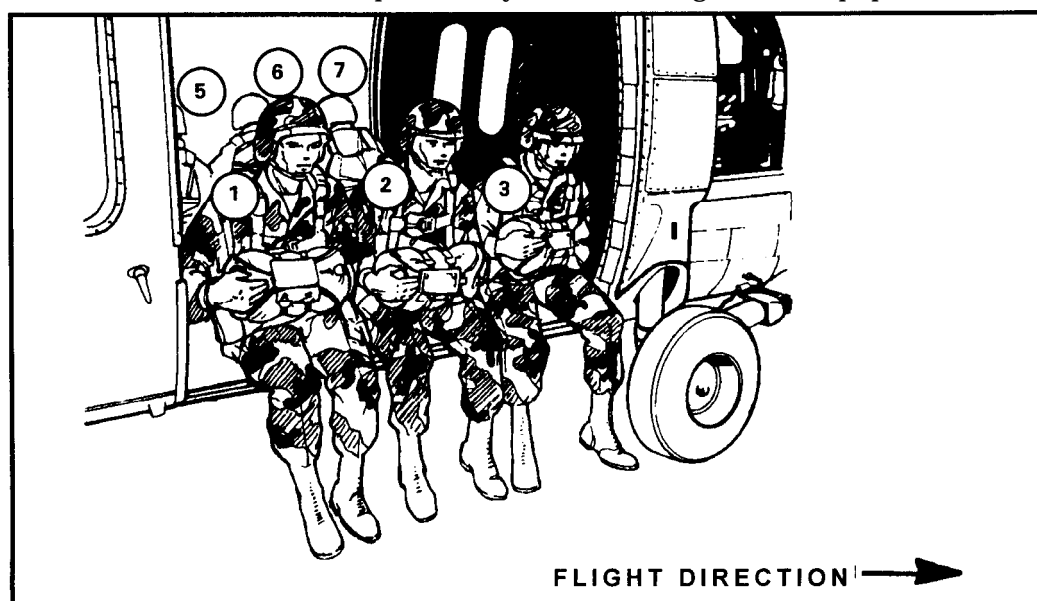

Figure 17-16. Numbers 1, 2, 3, 5, 6, and 7 exit positions.
e. **SIT IN THE DOOR.** This command is given by the JM at the 30-second warning. Numbers 1, 2, 3, 5, 6, and 7 assume door positions (Figure 17-16) with feet together outside the cargo compartment. Numbers 4 and 8 remain in place, ensuring that their feet are clear of their static lines. (This command is omitted if the parachutists are already sitting in the door.)